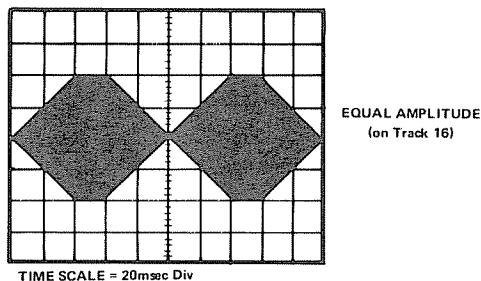

FIGURE 5-9. "CAT EYES" PATTERN
3. Read track 16 and verify the "cat eyes" pattern as shown in Figure 5-9. The smaller of the two "eyes" should not be less than 75% amplitude of the other. $\% = (\text{small lobe}/\text{larger lobe}) \times 100$.